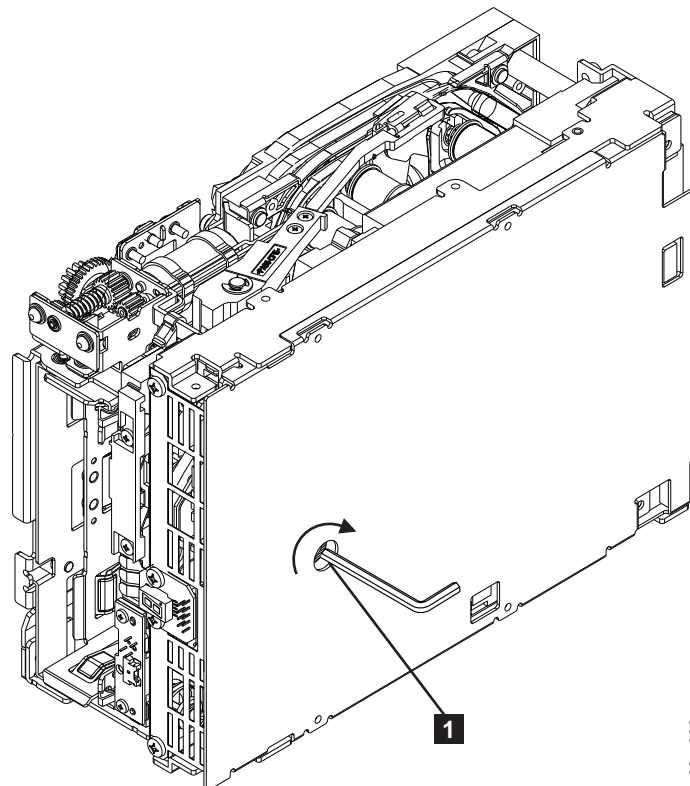

Figure 208. The hex wrench rewinds tape into cartridge
3. From the bottom of the drive, locate the access hole (**1** in Figure 208).
Note: Be sure to keep tension on the tape as the LBA is drawn into the cartridge by using a hex wrench as shown in Figure 208 on page 267.